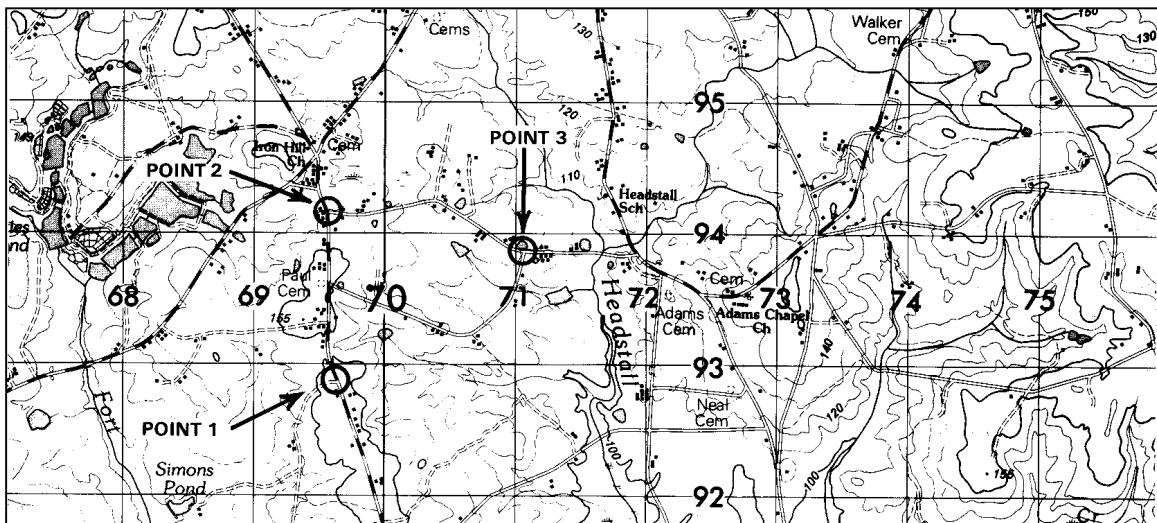

Figure C-1. Three distant points.
- a. Identify three distant points that also appear on a map (Figure C-1).